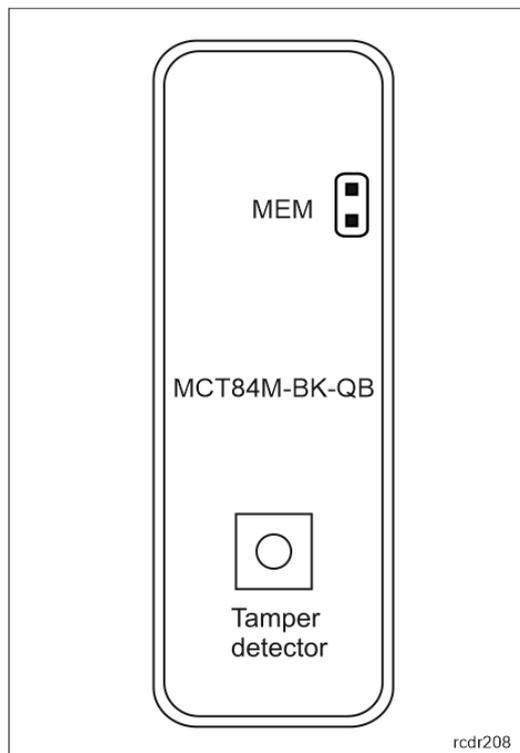

Fig. 4 Programming jumpers
Built-in tamper (sabotage) detector enables detection of unauthorized opening of device's enclosure as well as detachment of the enclosure from wall. The detector is internally connected to the terminal's input. It does not require low level configuration or any additional installation arrangements but it is essential to mount front panel in such way as the tamper detector (fig. 4) would firmly press the back panel. The detector requires high level configuration which consists in assignment of the function [133] *Tamper Toggle* on the level of a *Main Board* of a controller in VISO software navigation tree.
- Front panel should be attached in such way as the tamper detector (fig. 4) would firmly press the back panel.
In RACS 5 v2 system the reader can be installed at site without previous configuration. According to AN006 application note, its address and other settings can be configured from VISO v2 management software and during such configuration the access to its service contacts (fig. 4) is not required.
2. Remove jumper from MEM contacts (fig. 4) if it is placed there.